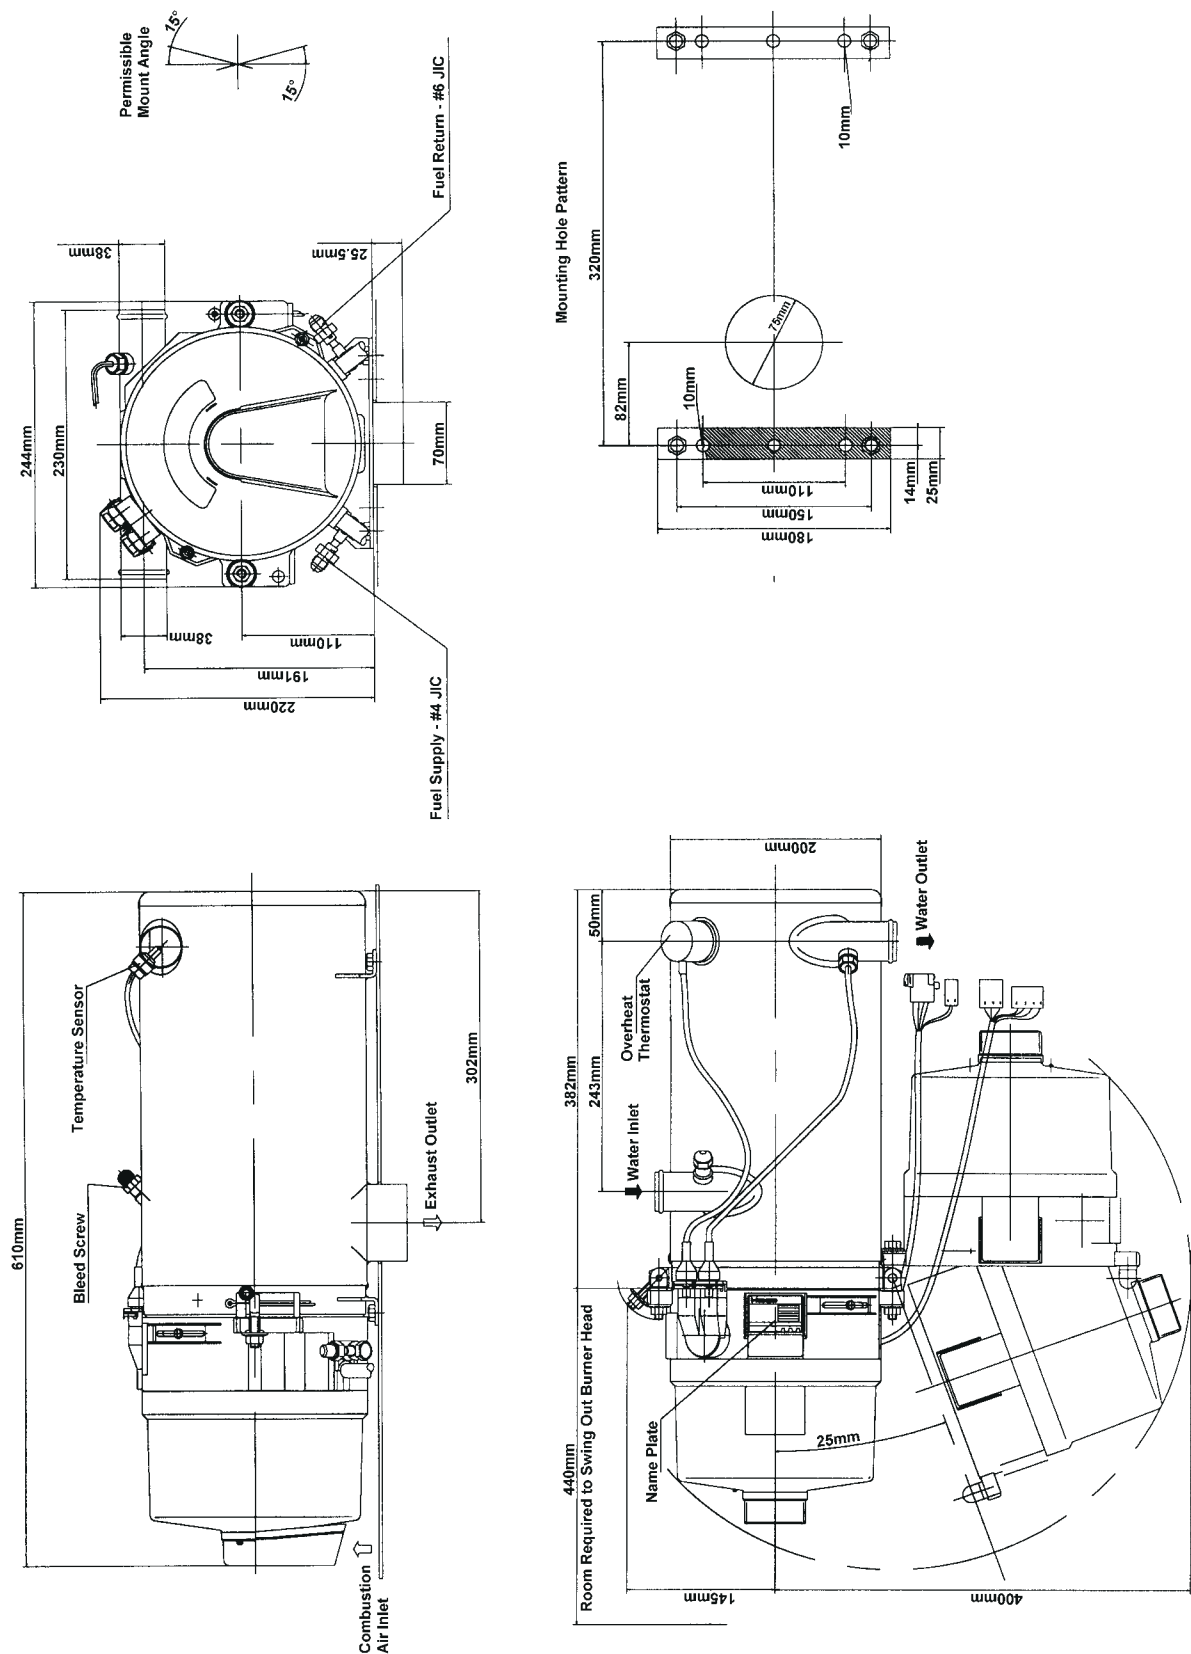

Fig. 301: Thermo 230/300 Heater Dimensions
When installing the heater, make certain that the clearances required for accessing the unit for servicing are observed (e.g. removal of the combustion chamber). See figure 301, page 302.
1. Drill all required holes to dimensions shown in figure 301, page 302.